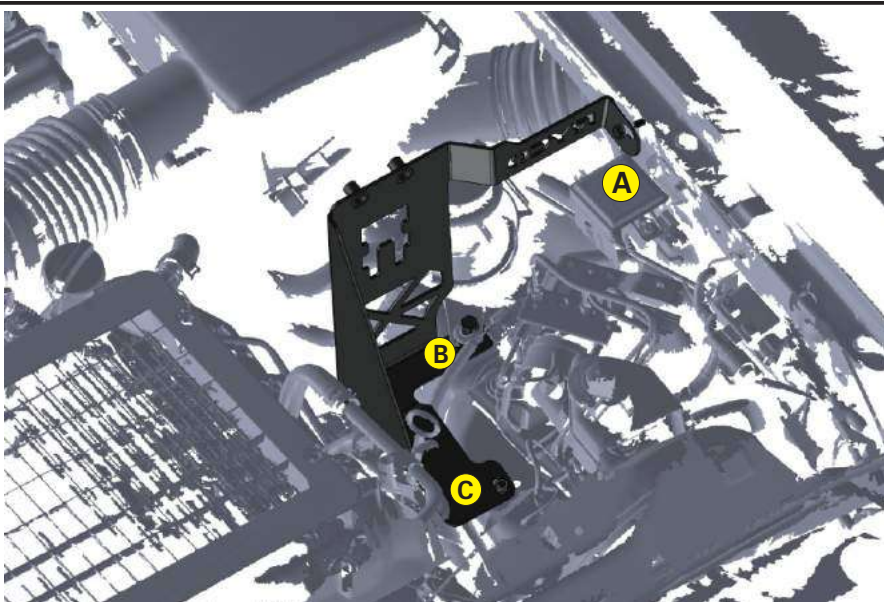

FIG. 1 BRACKET IN ENGINE BAY
2. Position the bracket in the engine bay as per Fig. 1, aligning the hole at Point **B** on the bracket under the power steering reservoir mount at point **B** and loosely refit the factory bolt.